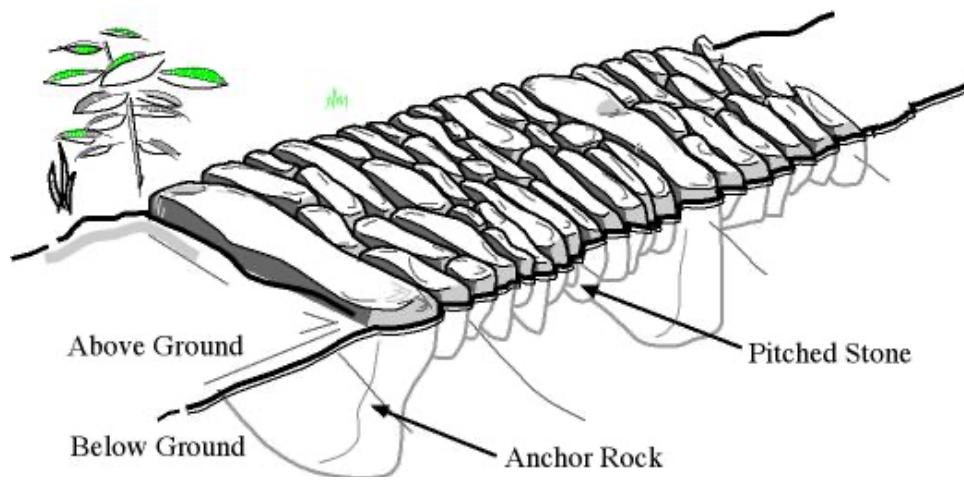

Figure 5: Stone Pitching
7.2 Clearing Limits (Figure 5)
The trail shall be cleared of vegetation per the dimensions shown in Figure 5 and in compliance with other specifications noted in this document, particularly Section 6.4. Furthermore, clearing shall be used to maximize sight distances to the extent practical.
7.3 Armored Tread/Stone Pitching (Figure 5)